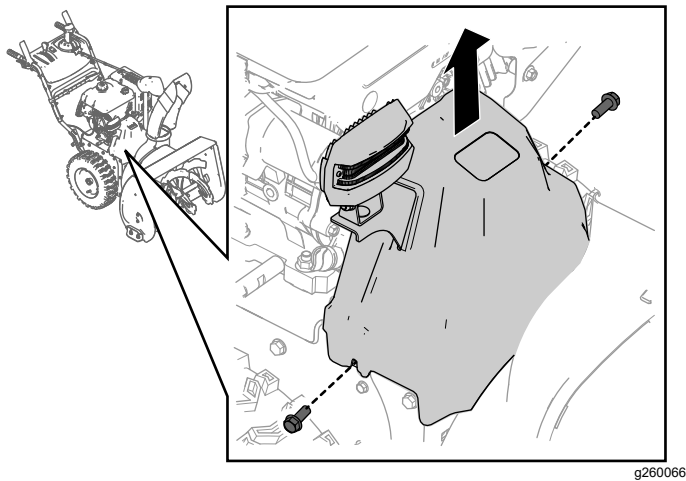

Figure 34
1. Remove the 2 screws that are holding the belt cover in place (Figure 34).
2. Remove the belt cover (Figure 34).